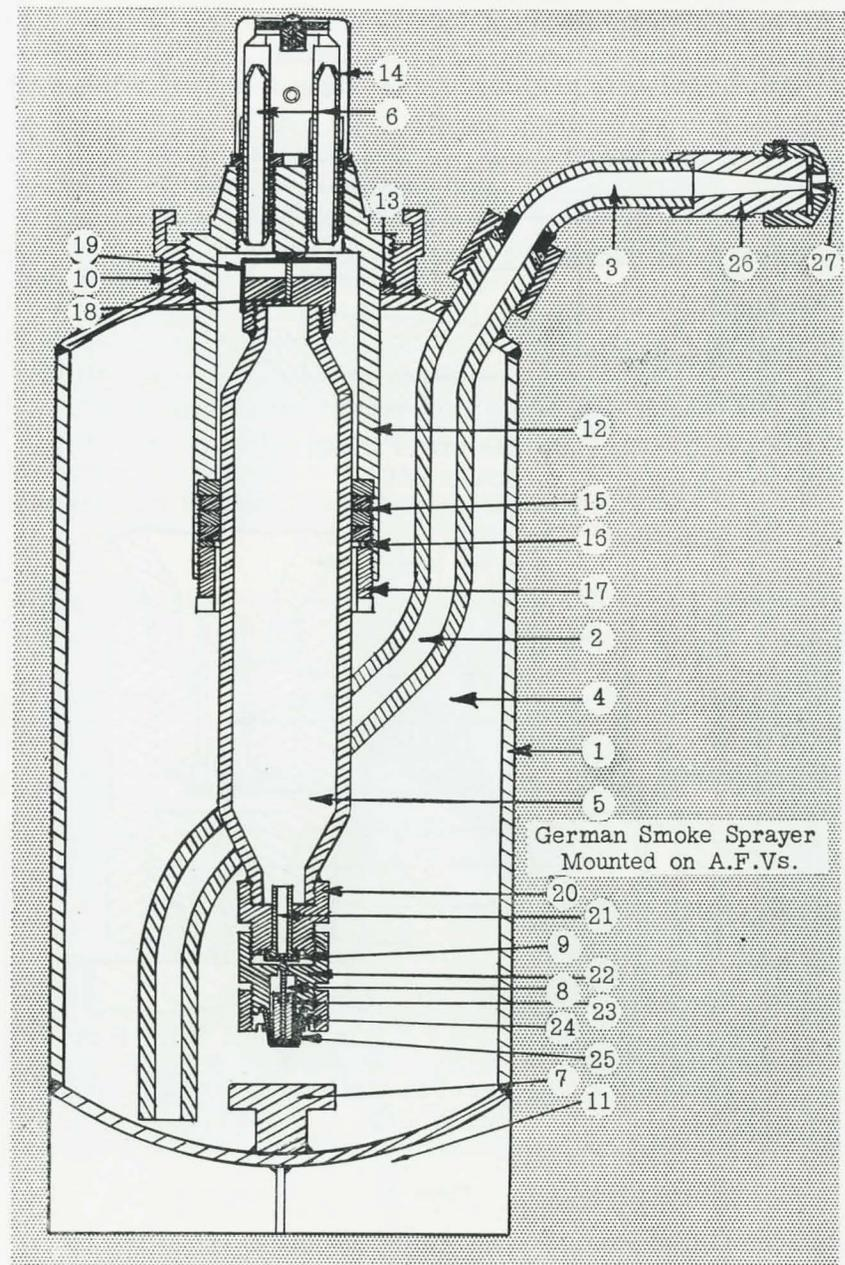

Figure 1.
The apparatus (see Fig. 1) consists of a mild steel container (1) fitted with a dip pipe (2) and jet pipe (3). The pressure necessary for spraying the charging (4) is obtained from a gas cylinder (5), mounted internally. The generator has two cartridges (6), which, on firing, force the gas cylinder downward on to a boss (7) in the base of the generator, when a striker pin (8) punctures copper sealing disk (9) of the gas cylinder and so releases the gas to give the necessary spraying pressure.